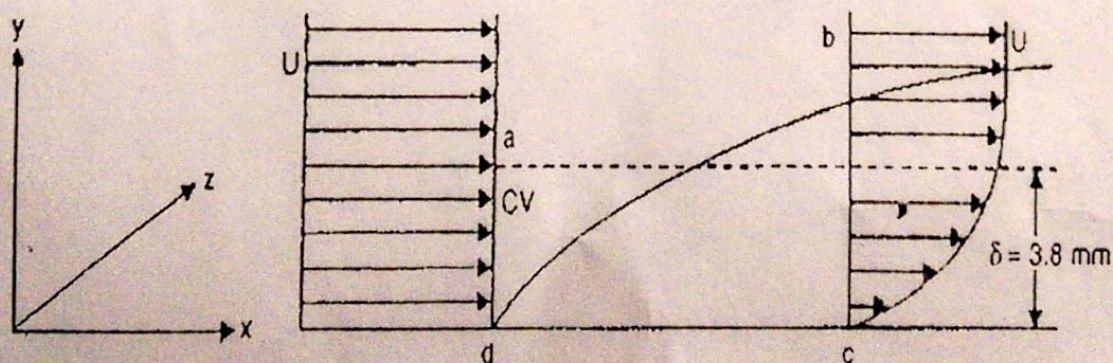

Fig. 1.1
12. Air at standard conditions is flowing over a flat plate which is  $1 \text{ m}$  long and  $0.3 \text{ m}$  wide. The flow is uniform at the leading edge of the plate. The velocity profile in the boundary layer is assumed to  $\frac{u}{U} = 2\left(\frac{y}{\delta}\right) - \left(\frac{y}{\delta}\right)^2$  as the free stream velocity is  $U = 30 \text{ m/s}$ . Assume that the flow conditions are independent of  $Z$  Using control volume abcd, shown by dashed line, calculate the mass flow rate across the surface ab. [Density of air may be taken as  $1.23 \text{ kg/m}^3$ , refer to Fig. 1.1]